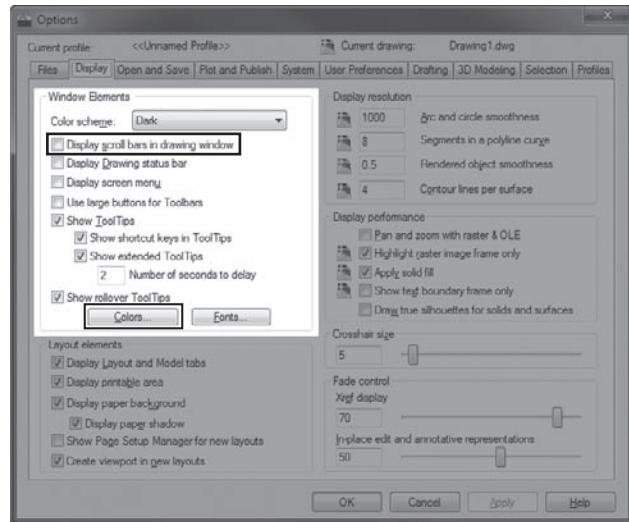

FIGURE 1.16 The Options dialog box opened at the Display tab
2. Click the Display tab, which is shown in Figure 1.16. Focus on the Window Elements section. If scroll bars are visible on the lower and right edges of the drawing area, the Display Scroll Bars In Drawing Window check box will be selected.